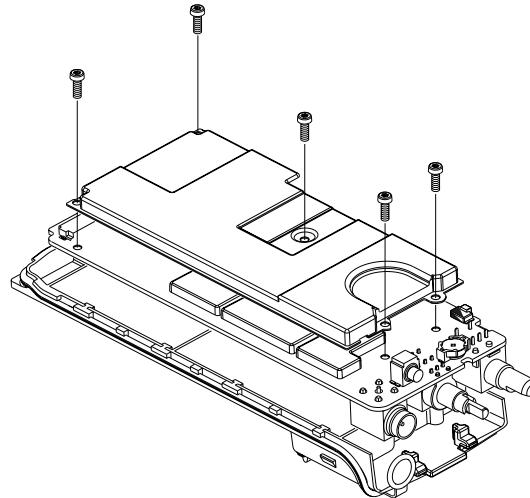

Figure 33. Removing the Main Board from the Chassis
3. Lift the main board from the chassis as shown in Figure 33.